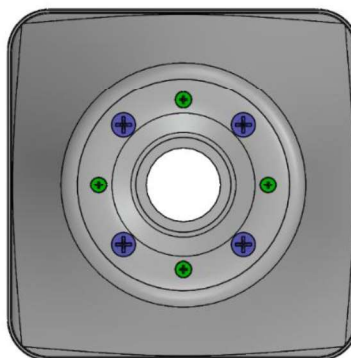

Figure 5 – New Doubler Plate Installation
- 2.3.2 Per Figure 5, apply LOCTITE® 271 to four #3 Phillips Screws (shown in blue) and torque to 30 in-lb. Torque four #2 Phillips Screws (shown in green) to 9 in-lb. Do not apply LOCTITE® 271 #2 Phillips Screws.